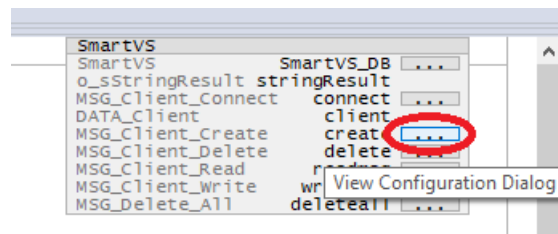

Figure 2: How to get in "Configuration Dialog".
N.B. : The MESSAGES defined as InOut of the AOI SmartVS are already set correctly for communication purposes. Do not modify these MESSAGES either through the "Configuration Dialog" (accessible directly from the block, see fig. 2) or from "Controller tags".
- set the MESSAGES via "Configuration Dialog" (accessible directly from the block, see fig. 2) updating the "Source Element" and the "Destination Element"